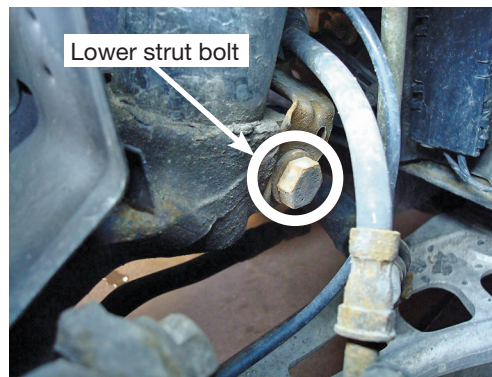

fig. 5
3. Remove the lower strut bolt (Fig. 5). Spread the strut mounting knuckle and slide the knuckle off of the strut.